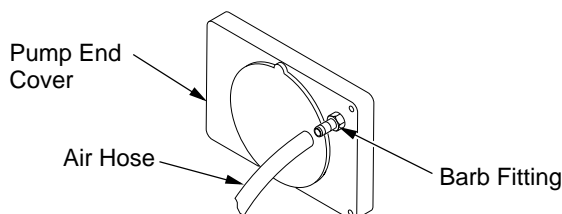

Figure 19 - Air Hose to Barb Fitting
- Inspect fuel and air line hoses for cracks and/or holes. If fuel line hose is damaged, disconnect from nozzle adapter (see Figure 14 or Figure 17 according to model, page 11) and from fuel filter (see *Fuel Filter*, page 9). If air line hose is damaged, disconnect from nozzle adapter (see Figure 14 or Figure 17 according to model, page 11) and from barb fitting on pump end cover (see Figure 19).
- Install new air and/or fuel line. Attach one end of air line hose to barb fitting on pump end cover (see Figure 19) and the other end to nozzle adapter (see Figure 14 or Figure 17 according to model, page 11). Attach one end of fuel line hose to fuel filter (see *Fuel Filter*, page 9) and the other end to nozzle adapter (see Figure 14 or Figure 17 according to model, page 11).